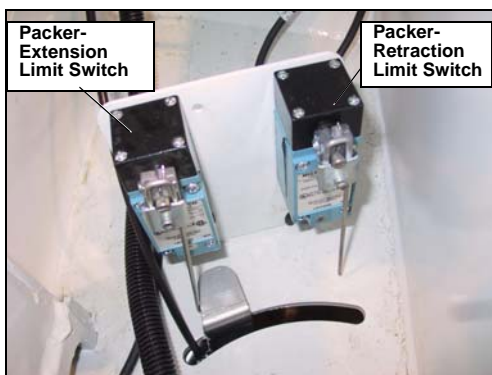

Figure 39. Packer cylinder limit switches
Both limit switches are generally located at the front end of the body, on the right-hand side, between the cab and the body (Figure 39. "Packer cylinder limit switches").
8. Locate the limit switches at the front of the body, between the cab and the body (see Figure 39. "Packer cylinder limit switches").
13. Locate the limit switch (see Figure 39. “Packer cylinder limit switches”).